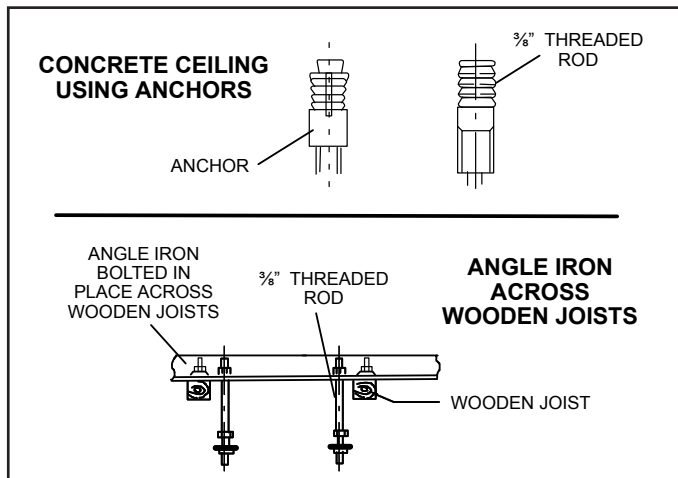

Figure 2. Suspending Methods
2. Install suspension rods in the structural ceiling or concrete slab in a suitable location. If the structural ceiling is constructed of concrete, install anchors to accept four  $\frac{3}{8}$ " threaded rods to suspend the indoor unit. If the structural ceiling includes wooden joists, use angle iron or Unistrut channel fixed securely in place to accept the  $\frac{3}{8}$ " threaded rods. **NOTE - Threaded rod (requirement of Lennox warranty program) is the ONLY acceptable method of suspending the unit; do not use chains or straps.** See figure 2.